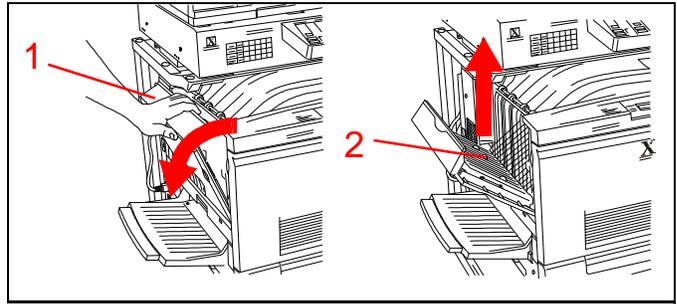

Figure 18
1. See Figure 18. Open the top left cover by pulling the top to the left.